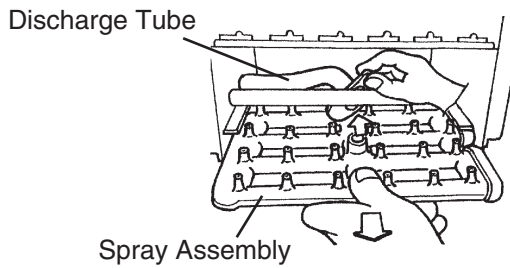

Fig. 32
7) Disconnect the discharge tube from the spray assembly, then slide out the spray assembly. See Fig. 32.